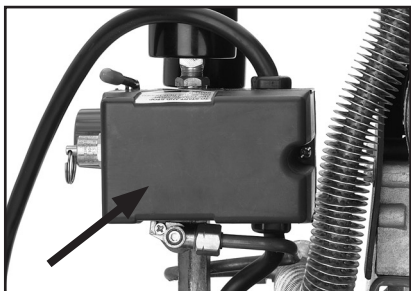

Figure 16. Pressure switch cover.
4. Remove the black AUTO/OFF switch cover (**Figure 16**) by removing the screw in the recess of the cover. Pull the black cover up and set it aside.